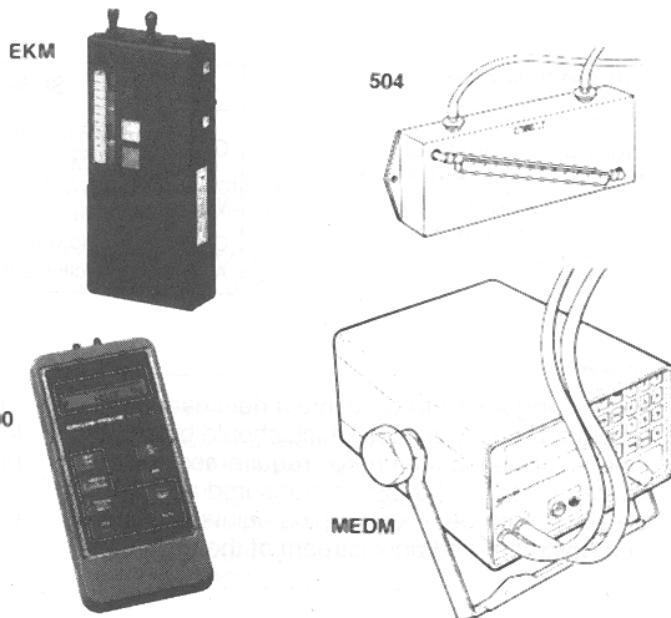

Fig. 14
7.1.1 For occasional checking of X Flowgrid differential pressure, portable instruments such as those found in the Airflow PVM or EDM ranges may be used. For immediate indication of grid differential pressure, duct velocity or volume flow rate, the Airflow MEDM is recommended (see Fig. 14).
7.1.3 If the X Flowgrid is to be used as part of an alarm system, to warn for example, if the volume flow rate drops below a certain limit, manometers fitted with alarm trips, such as the Airflow Type 504 and contact kit may be used, or the EKM pressure alarm manometer (see Fig. 14).